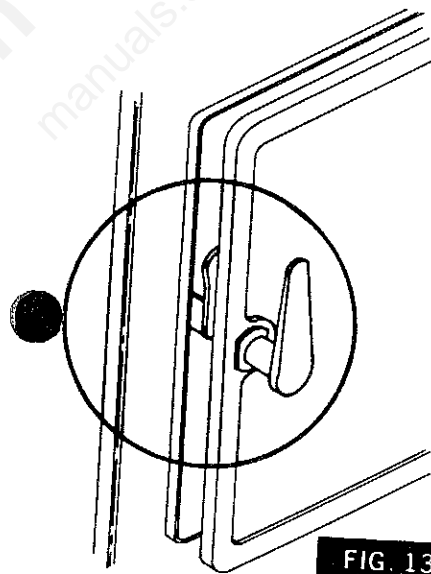

FIG. 13
2. Turn handle clockwise to the 12 o'clock position, pull the door open until you engage the second step. (Fig. 13).